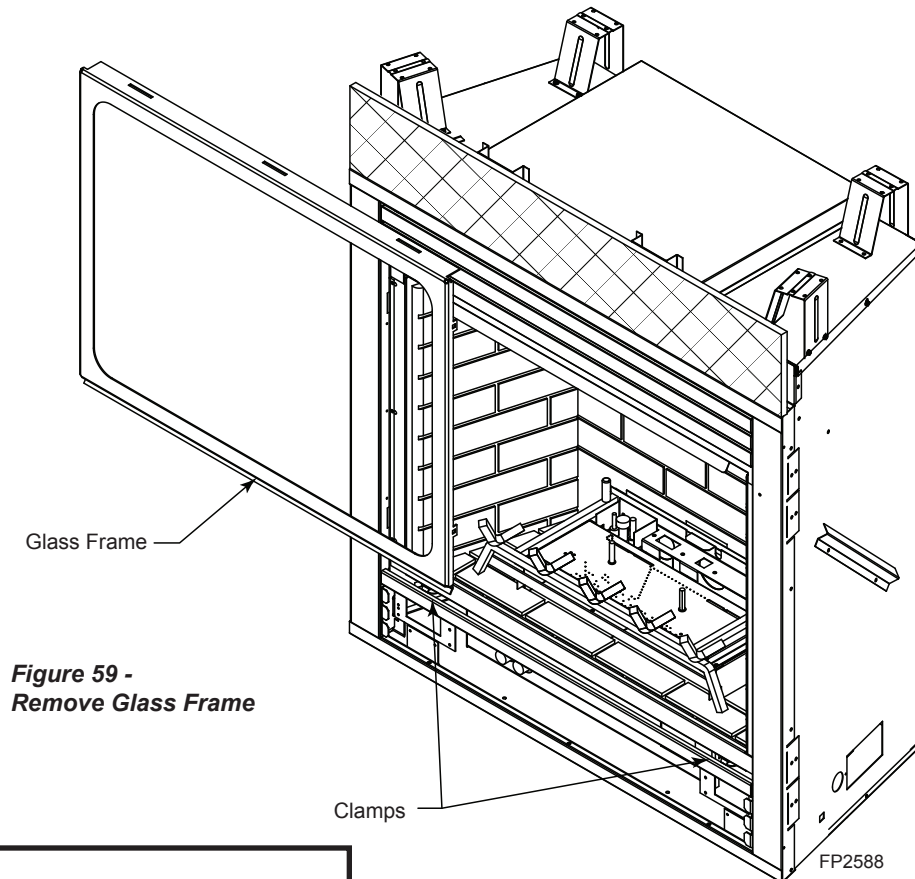

**Figure 59 -
1. Release two clamps on bottom of fireplace. *Figure 59*